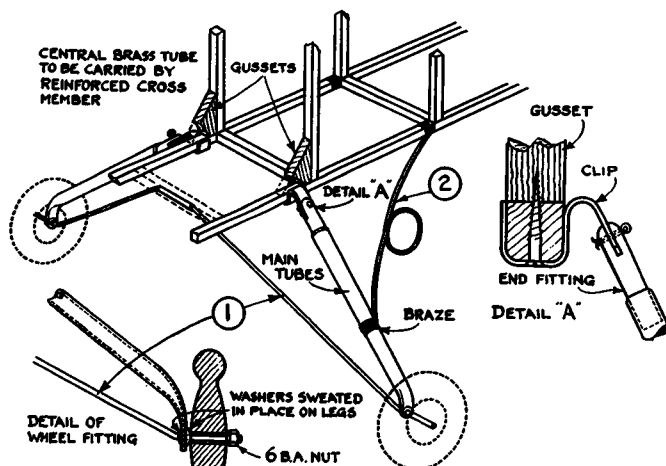

Fig. 6. A sturdy undercarriage suitable for large or power-driven machines.
The undercarriage shown in Fig. 6 can be used on a small petrol-engined machine, being light yet sturdy. The main legs are $\frac{1}{4}$ in. outside diameter hard brass tubes. Each tube is trapped at one end and bent over after having drilled the flats to take the wire struts, item 1. Small end fittings, made from either steel or brass, are sweated into the other ends of the undercart tubes as shown.